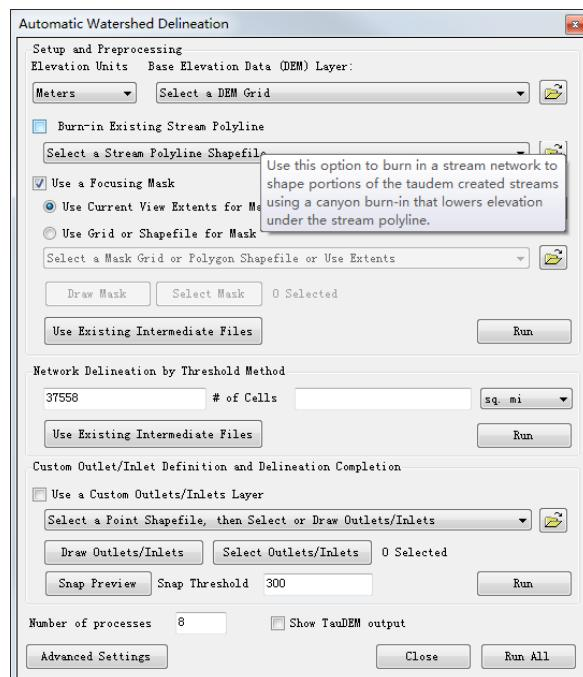

Figure 4-4. Dialog of the Automatic Watershed Delineation tool
1. Select Model >> Watershed Delineation, the Automatic Watershed Delineation tool will appear (Figure 4-4).